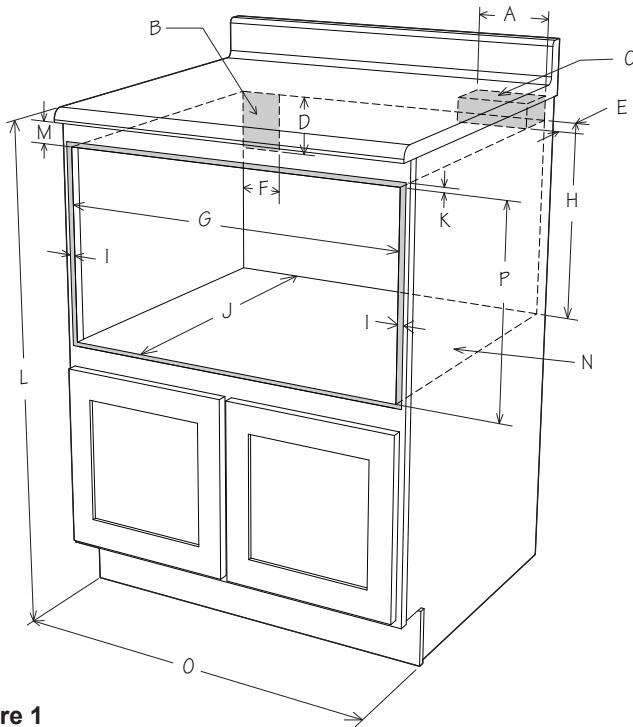
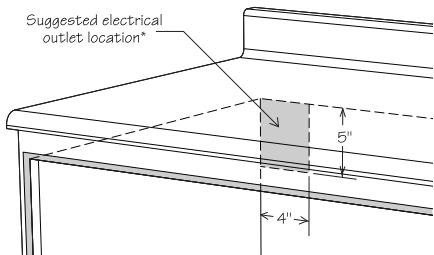

Figure 1
Figure 9
Do not install this appliance in any combustible cabinetry, which is not in accord with the stated clearances and dimensions on pages 2–5. See Figures 1–7.
- Dimensions shown in Figure 1 must be used. Given dimensions provide minimum clearance. Locate electrical outlet in the shaded area in the upper left-hand corner of the cutout. See Figure 9.
Figures 1 and 2 contain many measurements for reference when planning the Sharp Microwave Drawer™ Oven location.
To reduce the risk of tipping of the drawer, the Anti-Tip block must be properly installed located $14\frac{13}{16}$ " above the floor on which the Sharp Microwave Drawer™ Oven will sit. The 6" Anti-Tip block must be provided by the installer. See Figure 1. The Anti-Tip block prevents serious injury that might result from spilled hot liquids.